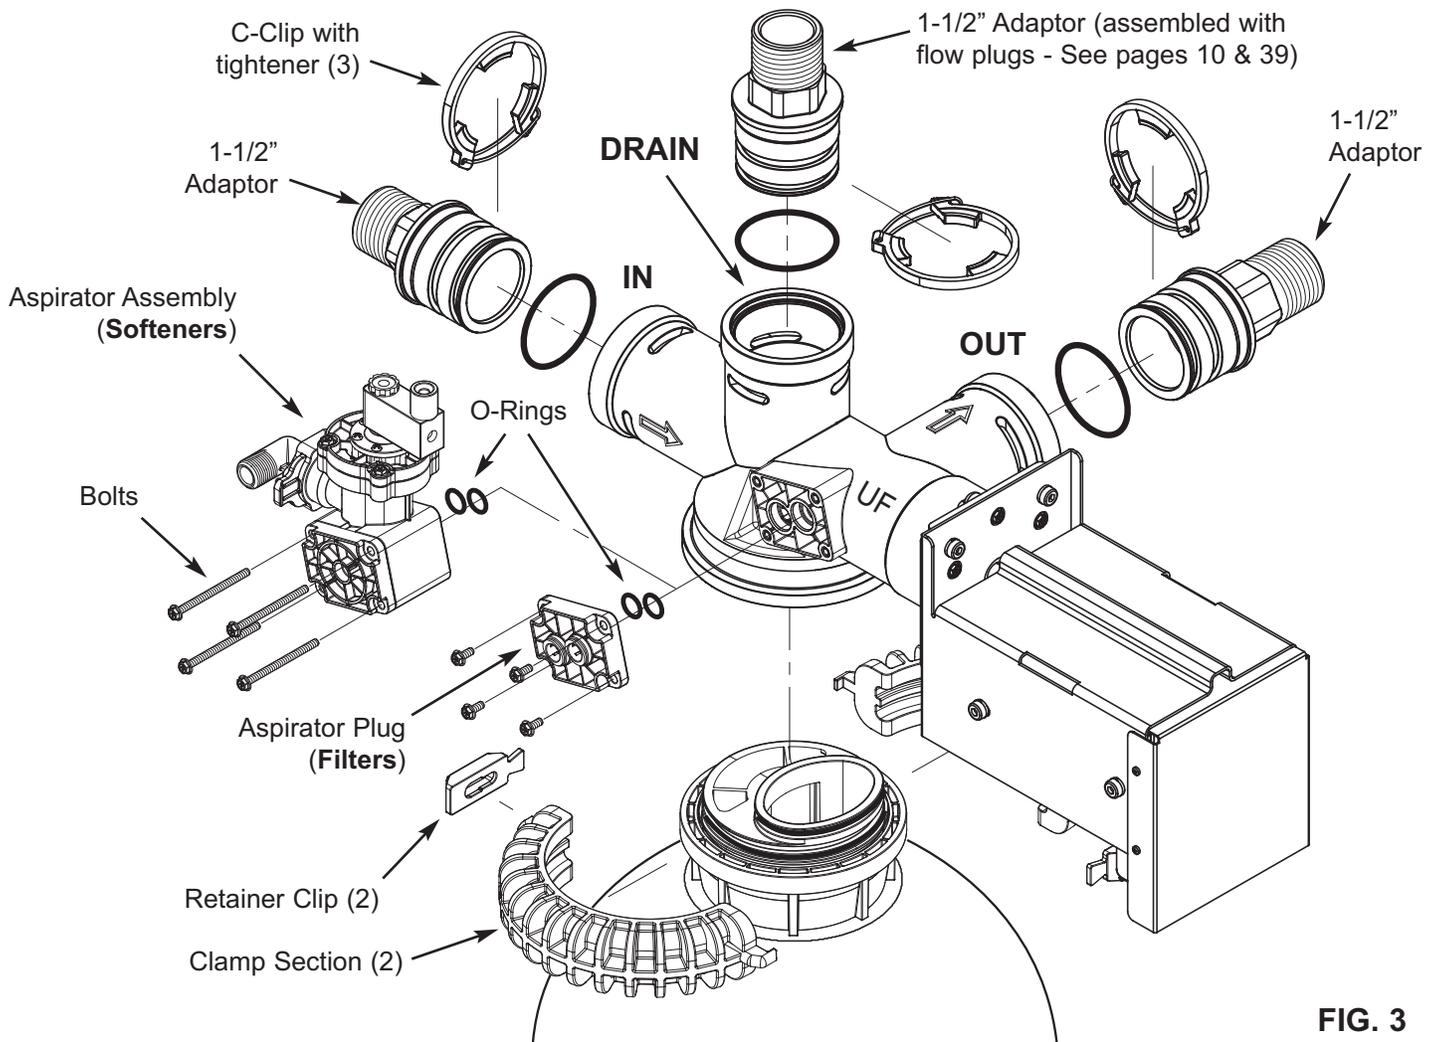

FIG. 3
13. Using 56.52 mm O.D. o-rings, c-clips and tighteners from the valve parts kit, install 1-1/2" threaded adaptors in the inlet and outlet valve ports (Figure 3). **Be sure the c-clips and tighteners are secured in place.**
14. **Softeners only:** Locate the 1-1/2" threaded adaptor in the **aspirator kit**. It is factory assembled with drain flow controls. Using 56.52 mm O.D. o-ring, c-clip and tightener, install it in the valve outlet port (Figure 3). **Be sure the clamps and retainers are secured in place.**
15. **Filters only:** Locate the 1-1/2" threaded adaptor in the **filter kit**. Assemble, as shown in the included instruction sheet (also on page 10), using the flow control components appropriate for the filter size and media. Using 56.52 mm O.D. o-ring, c-clip and tightener, install it in the valve outlet port (Figure 3). **Be sure the clamps and retainers are secured in place.**
16. **Softeners only:** The aspirator assembly contains the required components to control brine and rinse rates for **upflow** regeneration applications at medium water pressures (shaded rows in chart on page 10). If these conditions apply to this installation, do step a below. Refer to Figures 3 and 4, page 9.